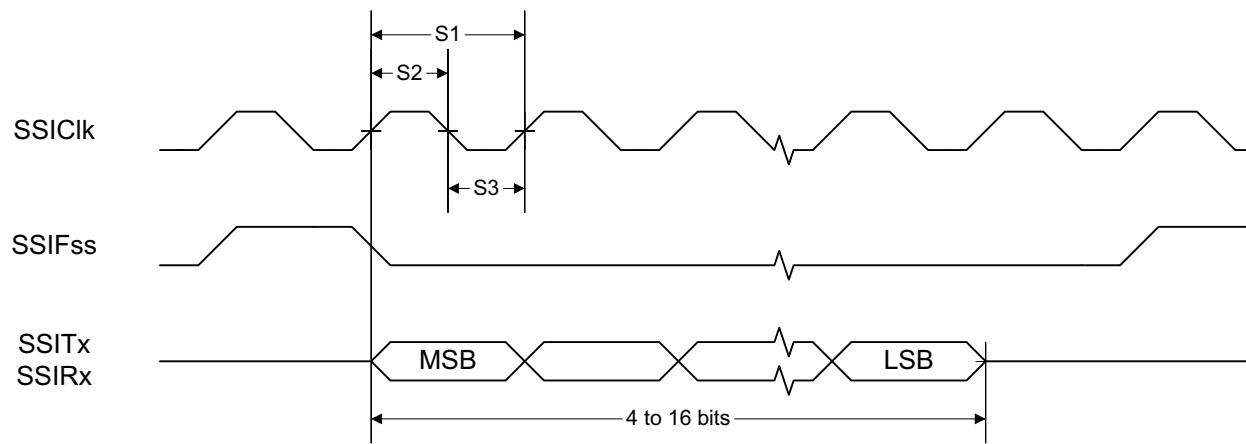
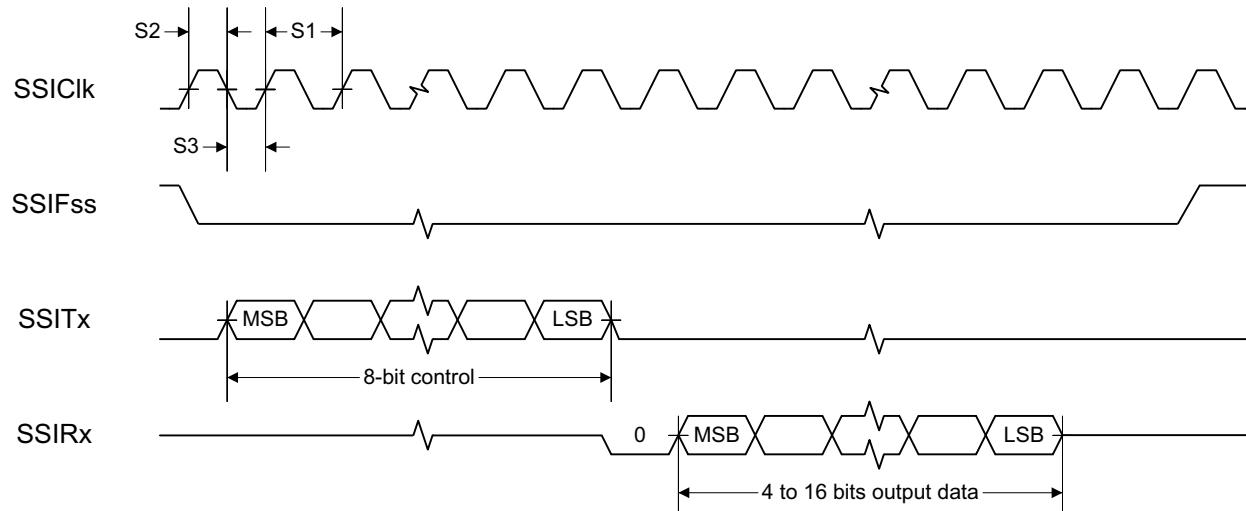
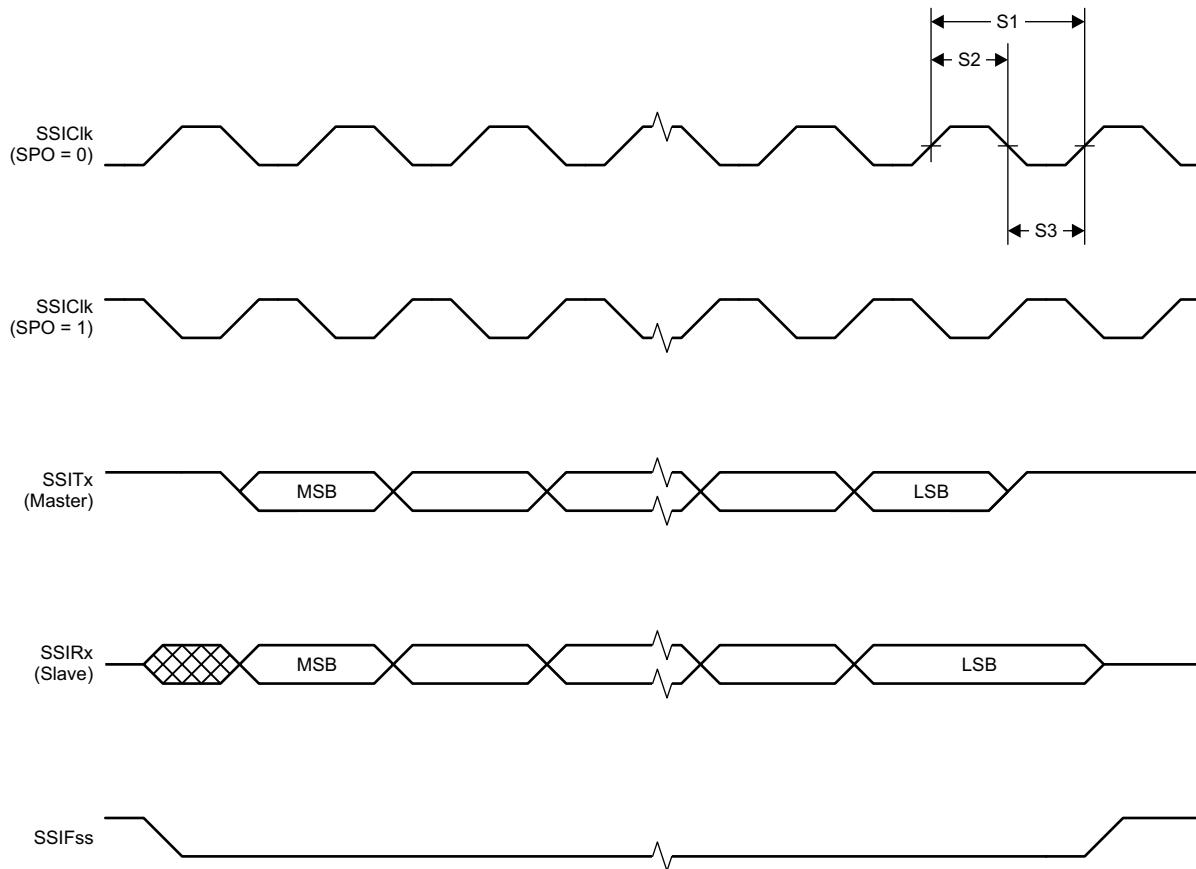

図 8-1. SSI Timing for TI Frame Format (FRF = 01), Single Transfer Timing Measurement
図 8-2. SSI Timing for MICROWIRE Frame Format (FRF = 10), Single Transfer
FIG 8-3. SSI Timing for SPI Frame Format (FRF = 00), With SPH = 1
(1) Refer to SSI timing diagrams 図 8-1, 図 8-2, and 図 8-3
(2) When using the TI-provided Power driver, the SSI system clock is always 48 MHz.